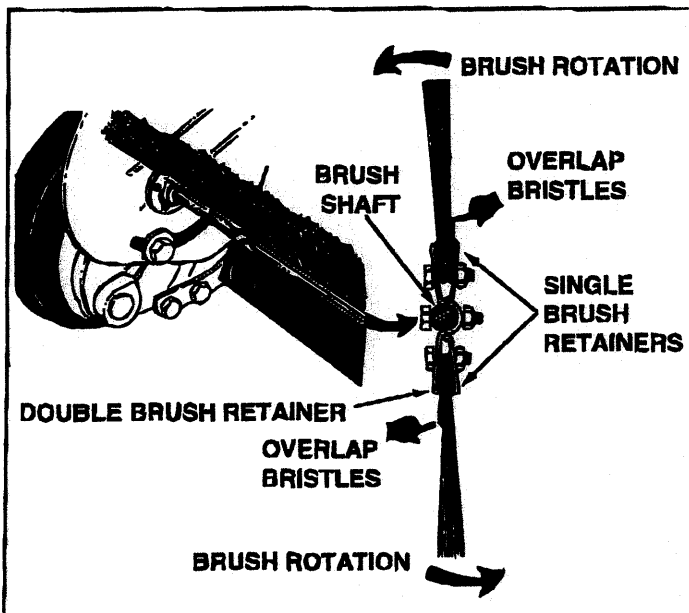

FIGURE 9
2. Loosen the hex bolts and lock nuts on two single brush retainers which clamp one brush to the double brush retainers. **Do Not loosen** or remove the bolts which fasten the double brush retainers to the brush shaft. See figure 9.
3. Slide the brush out of the retainers, noting on which side of the brush the bristles overlap. See figure 9.
4. Install new brush, making sure the bristles overlap on the same side of the brush as before. See figure 9.